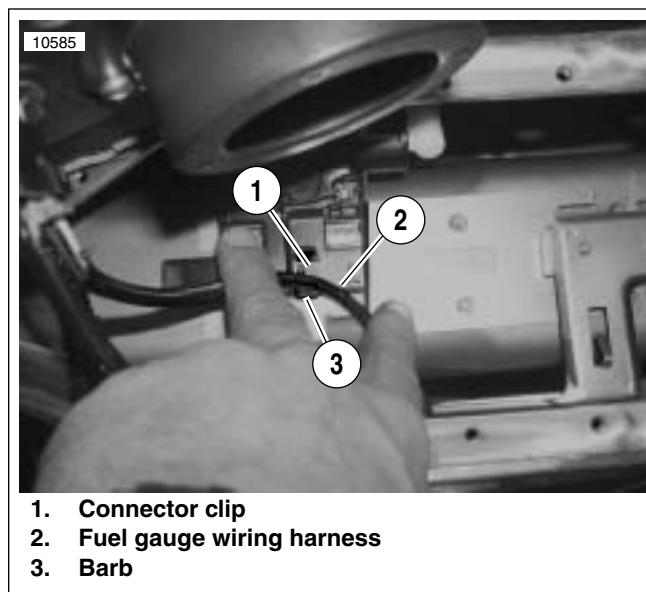

Figure 1. Dyna Fuel Gauge Sender Wire Harness Routing
See Figure 1. While servicing fuel sending unit or fuel pump on FXDI and FXDXI models, route fuel gauge wiring harness (1) through barb (2) on left side of connector clip (3) as shown. Do not install fuel pump connector in connector clip. Fuel pump connector should remain connected but unclipped.